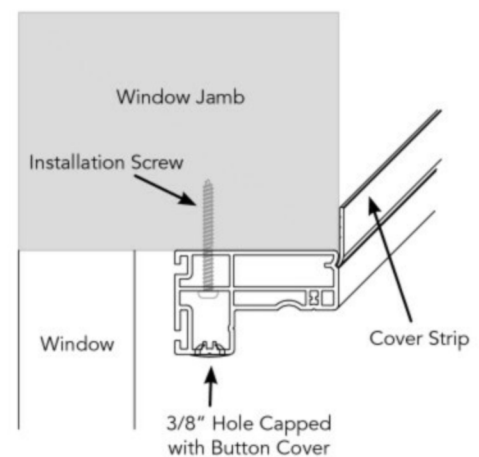

Fig. 3.2
- Once all screws have been installed and panels checked for level, cap all holes with the provided button plugs. (See Fig. 3.2)
- Close gaps around frames with L-Frame Cover Strip (if requested). This is glued to the front face of the frame. (See Fig 3.2)